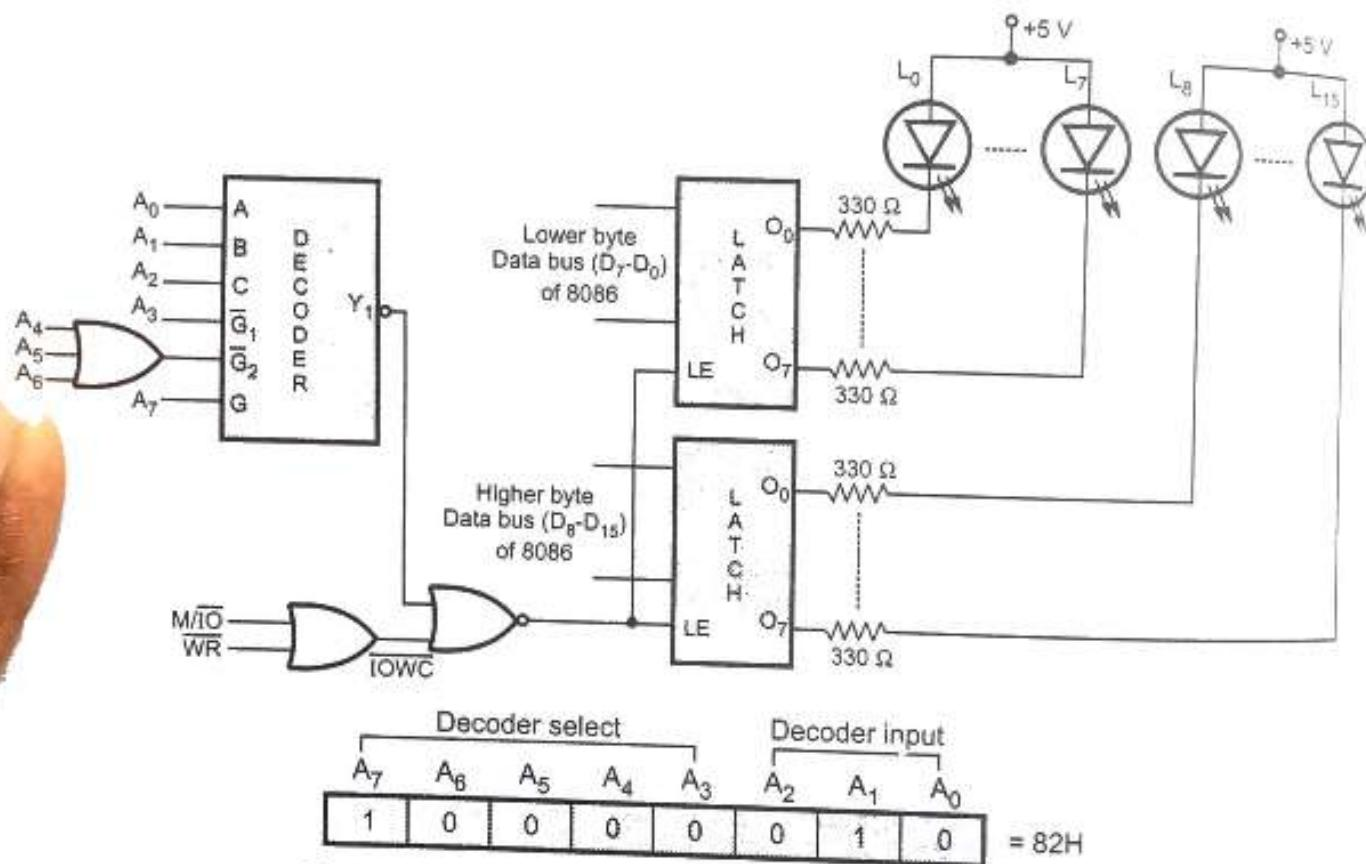

Fig. 3.1.6 Circuit diagram to interface 16-bit output port
- Fig 3.1.6 shows the circuit diagram to interface 16-bit output port (latch) which is used to send the signal for glowing 16 LEDs. LED will glow when output pin status is low.